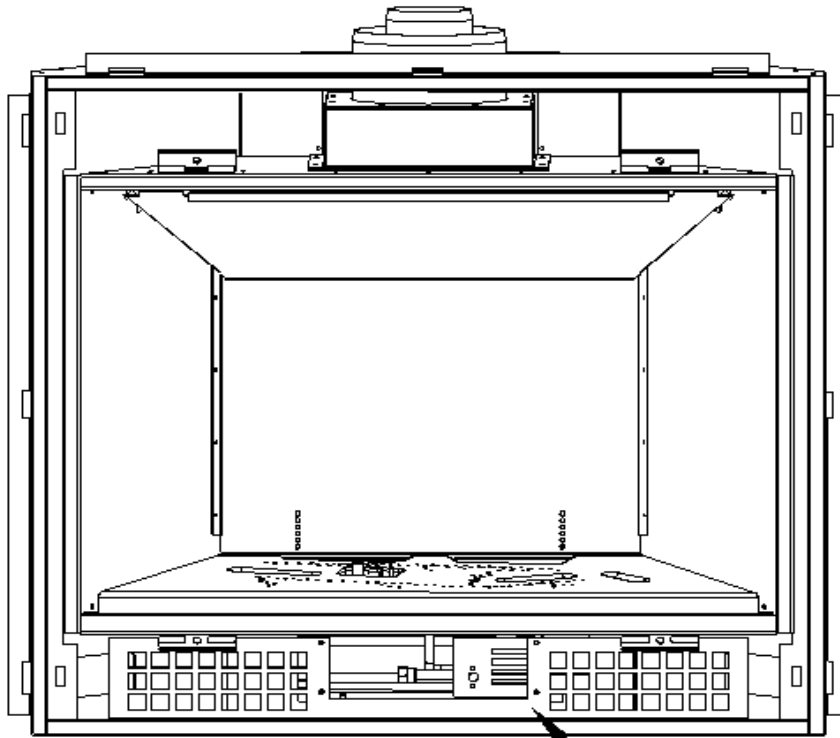

Figure 24
- 3) Remove fan guard (figure 24) and valve tray.